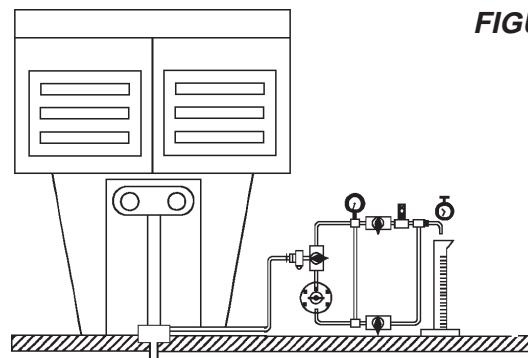

FIGURE 1
2. Install the FTA in the dispenser shear valve as shown in Figure 1.